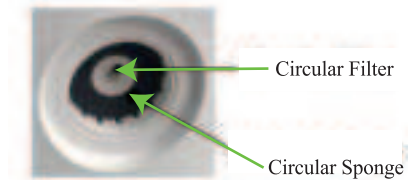

Figure9
- Pull out the filter, and replace it with a new one (see Figure 9);